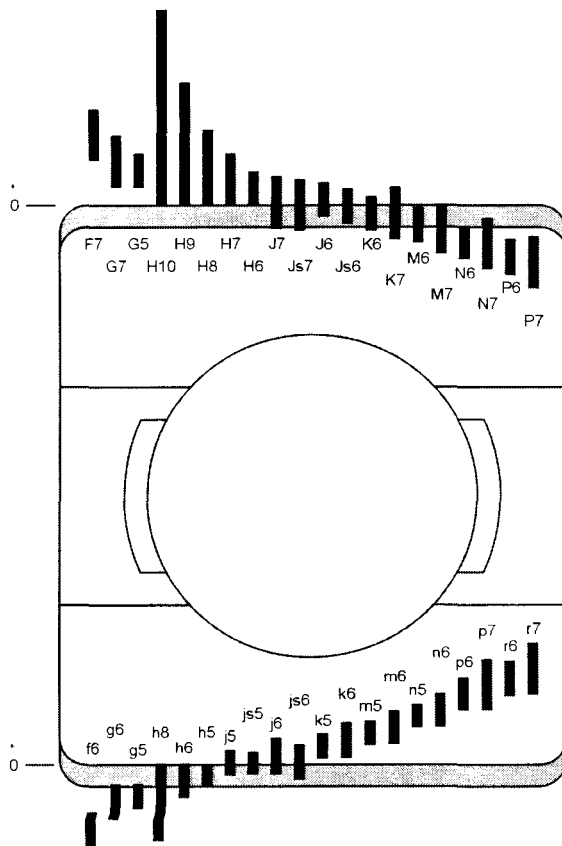

Figure 20 - Tolerance position diagram. (Courtesy SKF Canada Limited)
1. The number in the codes is an ISO grade to indicate the size of the tolerance. In other words, the grade indicates how much variation in size would be allowed for that grade number. If you look at the codes shown on the diagram in Figure 20, you will see that an h8 tolerance permits a larger variation in size than a h6 or a g6 tolerance.
- The letter also tells us the tolerance position. In the diagram in Figure 20 you will see how some tolerances give a clearance fit and some give an interference fit, while others will be a transition fit. This is described as the tolerance position.
Although you will not use the diagram in Figure 20 to look up the shaft and housing sizes, it does tell you at a glance how big the tolerance is and what type of a fit you can expect.